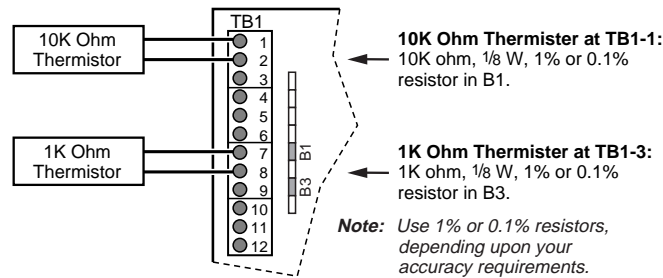

Figure 5. Thermistor Connection
2. Connect the other lead to the ground terminal (see Figure 5).